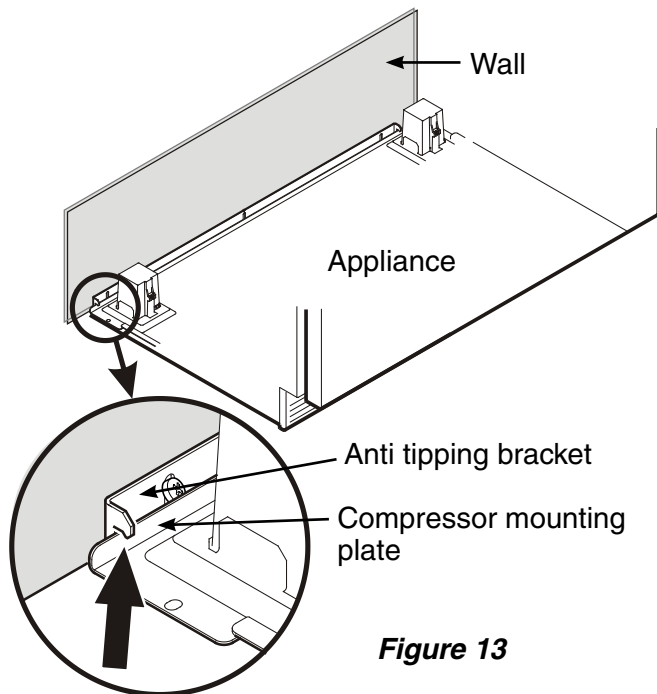

Figure 13
4. Push the appliance slowly to the back wall until the compressor mounting plate makes contact with the anti tipping bracket (**Figure 13**).
To prevent the appliance from tipping forward the compressor mounting plate must have contact with the anti tipping bracket (**Figure 13**).